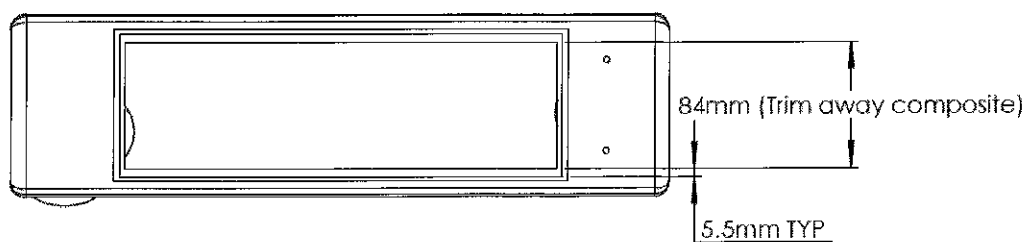

Figure 2: Trimming requirements of housing
- Remove the four (4) rivets that attach the airbox bracket to the filter housing by drilling the rivet heads off and punching the stems out with the 4 mm pin punch.
- Trim the rectangular opening of the housing where the filter is fitted with the abrasive tool to dimensions specified in Figure 2. The dimensions indicated in Figure 2 are in **millimetres**.